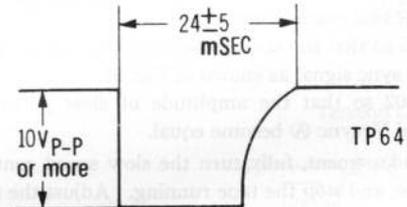

Fig. 46
3. Make sure that the waveform of TP64 becomes as shown in Fig. 46.